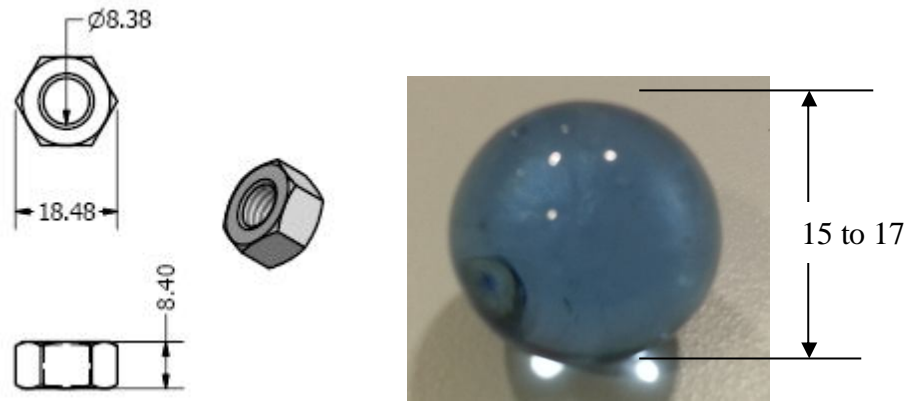

Figure 4 : Cargo Dimensions (in mm)
- 3.6 The cargo to be lifted will be marbles in the case of ROV and nuts for AUV as shown in Figure 4. The marbles are ceramic in nature and will have a diameter of around 15-17mm weighing 3 to 7g each. The nuts will be ferromagnetic and weigh between 10g to 20g.